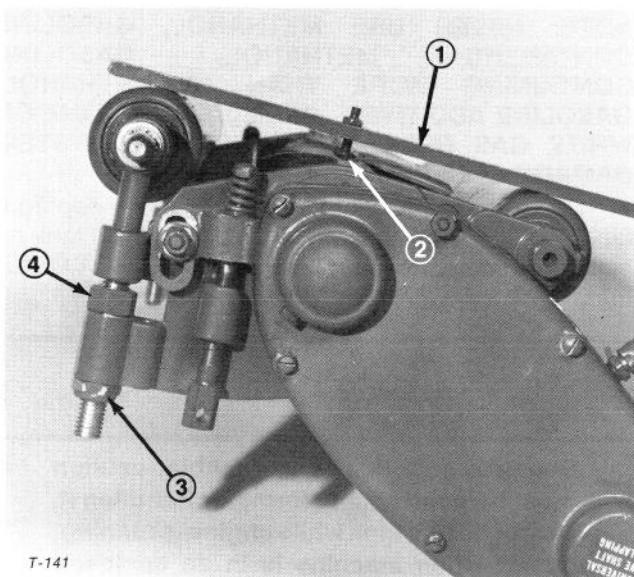
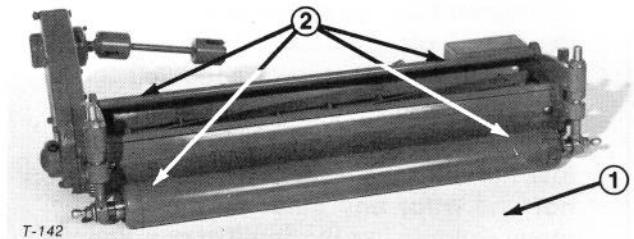

Figure 8
Figure 9
3. Place cutting unit upside down on bench, position gauge bar on end of unit with one end on front support: skid, full roller, sectional roller, etc., the other end on rear roller (Fig. 8).
4. Loosen top nut on adjusting screws on each side plate (Fig. 8) and turn adjusting nut to raise or lower front roller or skid assembly (Fig. 8). Raise or lower rollers until they contact out end of gauge bar. When proper adjustment is obtained, screw head on gauge bar will just pass over cutting edge of bedknife (Fig. 8). **ASSURE HEIGHT-OF-CUT IS EXACTLY IDENTICAL AT BOTH ENDS OF BEDKNIFE.**
5. Tighten top nuts to secure roller adjustment (Fig. 8). Turn cutting unit over and place on a level surface (Fig. 9). Press down on each end of the front and rear rollers (Fig. 9). Each roller should contact level surface completely across unit (Fig. 9). If rollers do not contact, repeat steps 3 and 4.